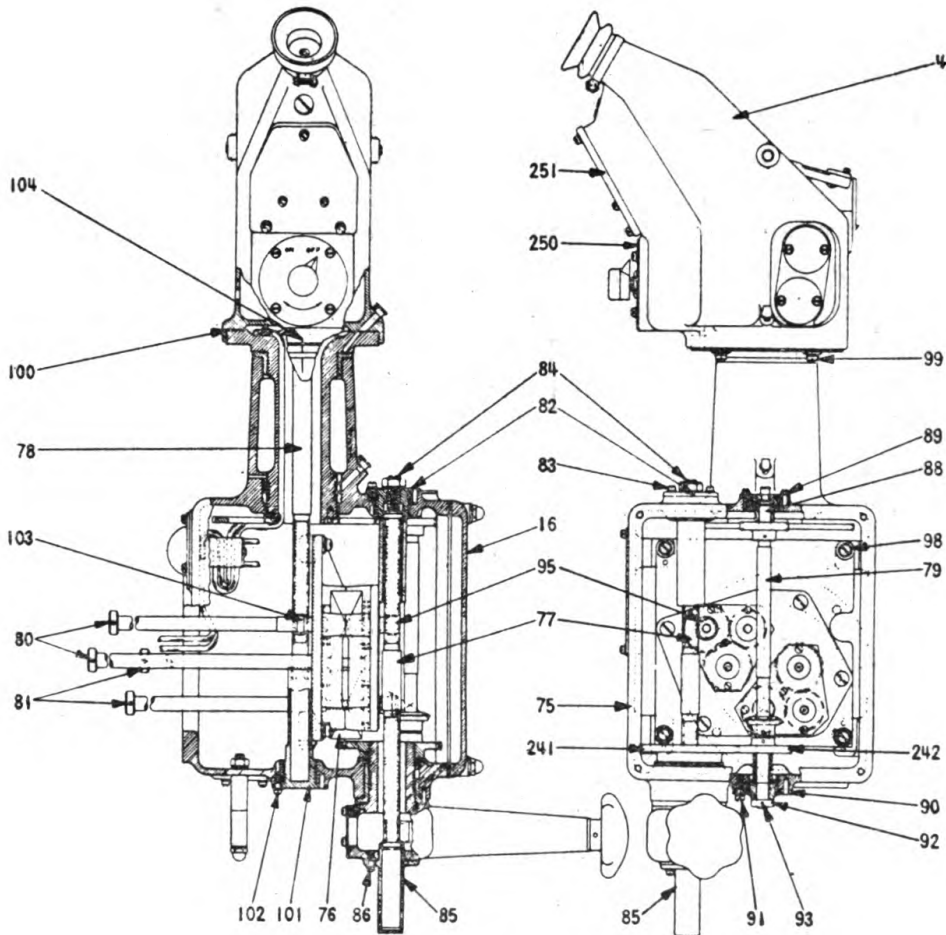

FIGURE 5.
- (1) Loosen set screws at end of extension shafts 80 and 81, figure 5.
- (3) Remove safety wire 26, and holding corrector drive housing in position, remove nuts 25.
(4) Holding assembly in normal position, pull it straight out from main case, being careful not to damage or distort the extension shafts.
c. Referring to figure 5, remove cover plate 16.
the inner rack as measured from the under bearing surface of the open sight assembly 100, figure 5, to the extreme lower end of the inner rack, is $9\frac{7}{32}''$.
16. Referring to figure 5, turn the open sight assembly in azimuth until the guide marks 104 are aligned. Do not disturb this setting until azimuth synchronization has been completed. Position corrector handle and knob so that it projects at right angles (90°) to the azimuth heading of the corrector drive housing.
c. This offset procedure compensates for the thickness of the corrector handle at the point of contact with the stop stud 22, figure 2, resulting in equal displacement of the open sight assembly on either side of the guide marks 104, figure 5. This completes the azimuth adjustment of the corrector drive assembly.